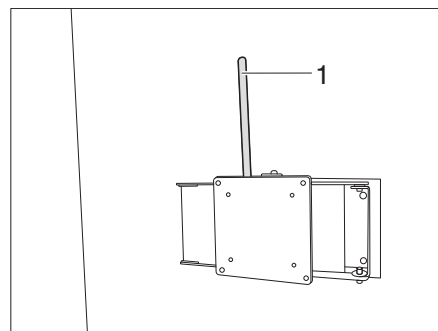

Fig. 126 Holder with jointed arm (variant 4)
- Pull the lever (Fig. 126,1).
- Push the lever (Fig. 126,1) back up into the initial position to lock.